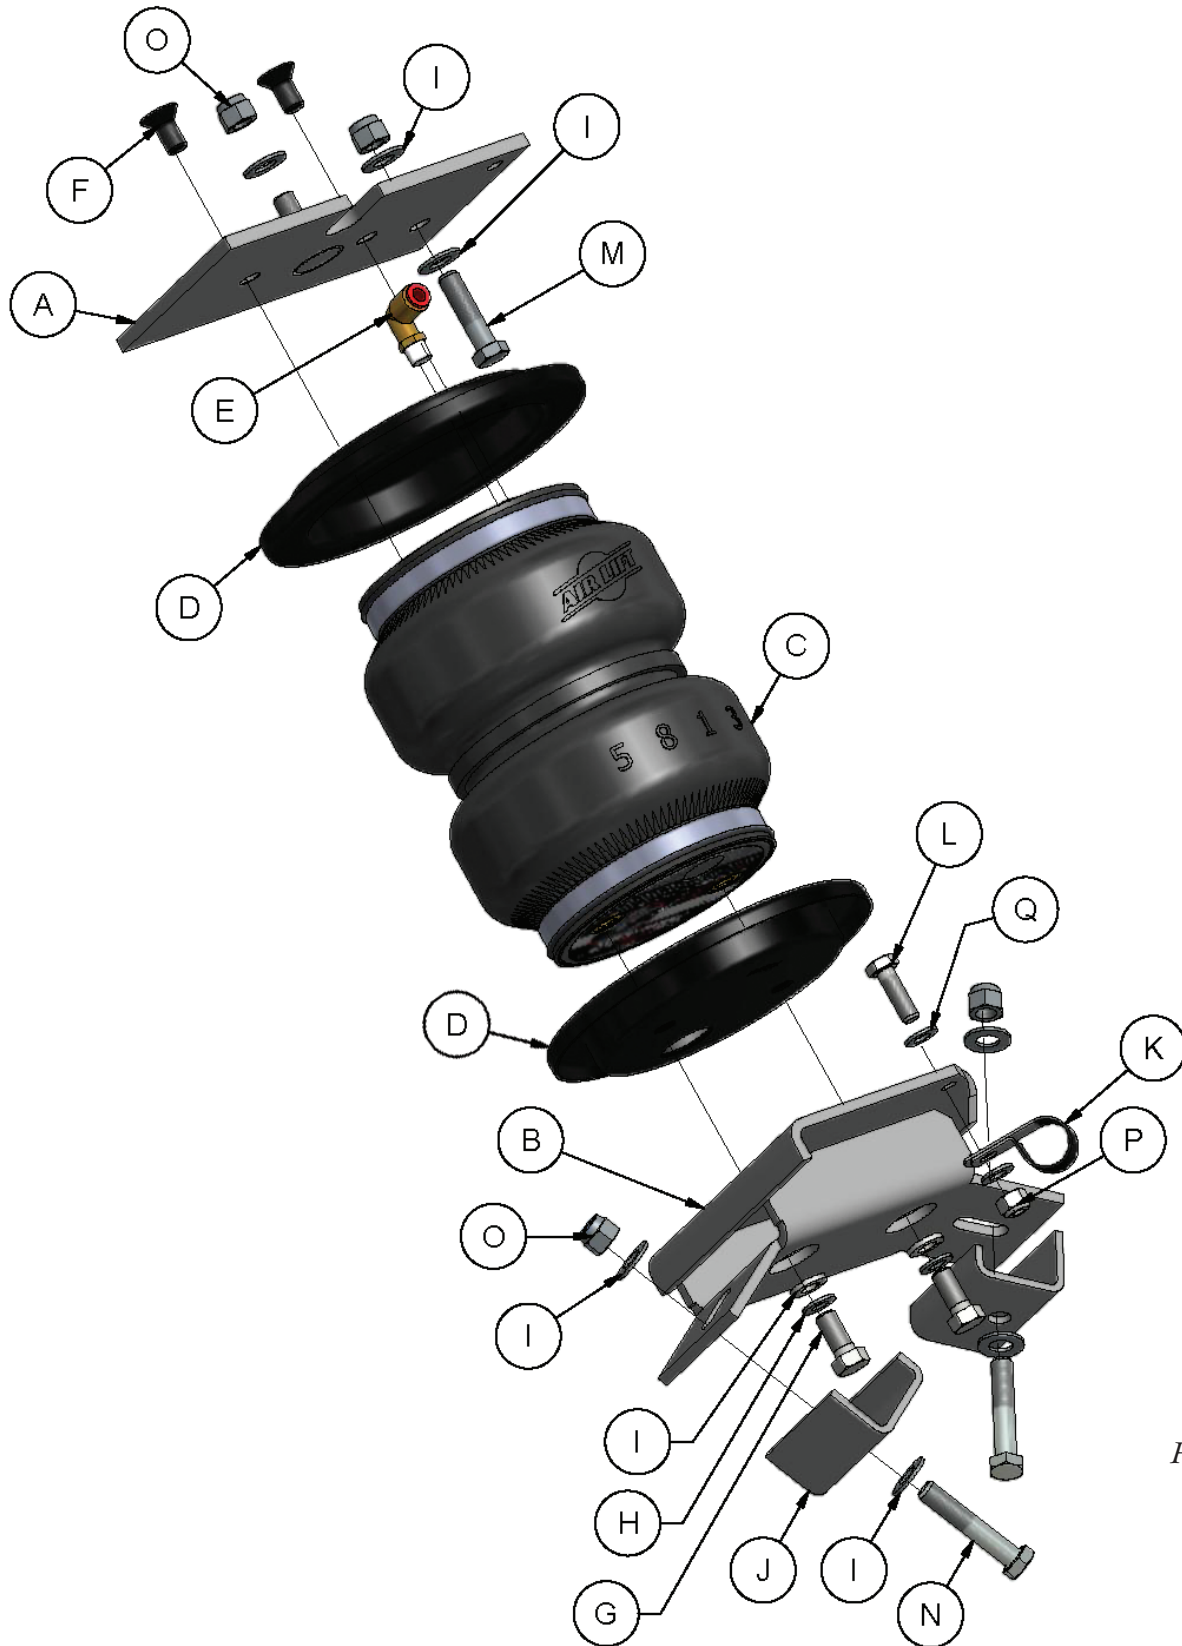

Fig. 1
\* These parts are not shown in the Installation Diagram (Fig.1).
4. Insert the 3/8" bolt (M) and flat washer (I) through the upper air spring bracket (A1 and A2) in the round hole as shown (Figs. 1 and 6). The brackets will have an "L" & "R" on them to specify left (driver's side) and right hand (passenger's side) assemblies.